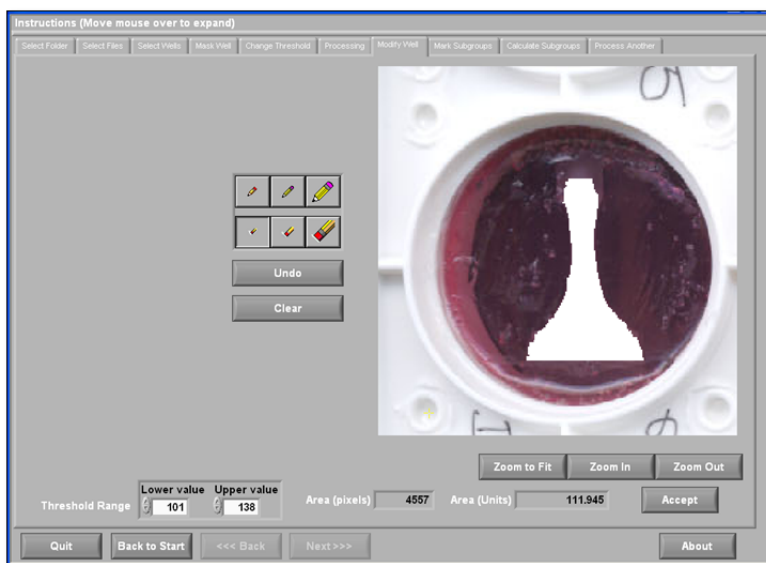

Figure 29. Adjust the threshold and use the editing tools to modify a specific well image
- 2) When the threshold in the image is satisfactory to the user, select *ACCEPT* (**Figure 29**). This action will navigate the user back to the *PROCESSING* screen with the updated information from the *MODIFY WELL* screen in the selected cell. Repeat this process until all the well images are acceptable and then select *NEXT* on the processing screen.